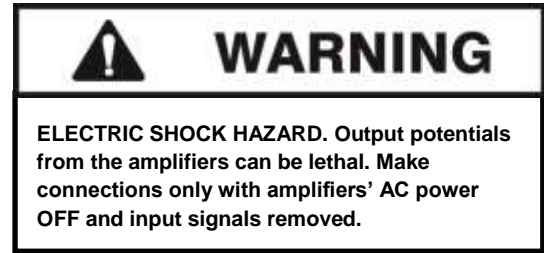

Figure 3.12 – Terminating the Amplifier Input
4. Terminate the input of the Master amplifier using a resistor-terminated barrier block connector (see **Figure 3.12**) or similar device.